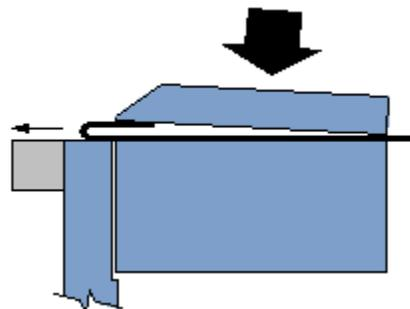

Figure 13-2
3. To further flatten the material, slide the piece part forward about 1/2" and use the bar to magnetically clamp it as shown in (fig. 13-2)